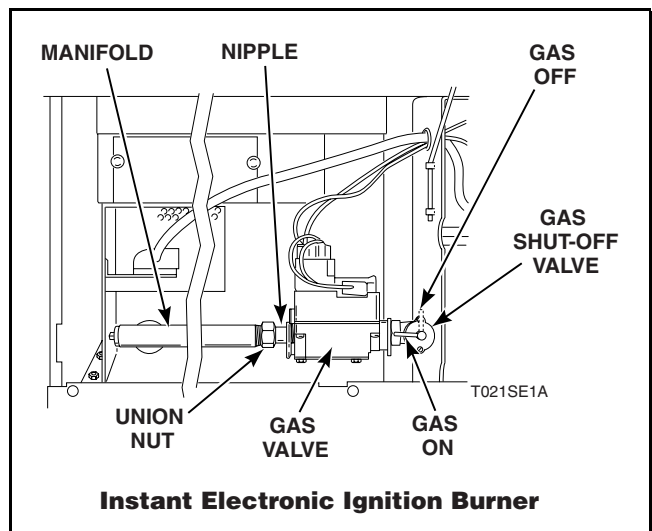

Figure 24
- Close gas shut-off valve. Refer to *Figure 24*.